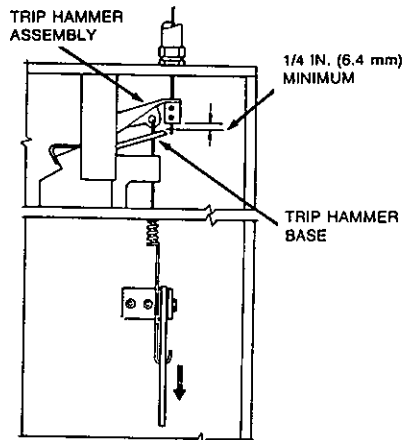

FIGURE 45
16. Lower tension lever to "DOWN" position and inspect the base of the wire rope clamping device to make certain that there is a minimum of 1/4 in. (6.4 mm) clearance between the base of the trip hammer assembly and the cable lever assembly. See Figure 45. (If clearance is not 1/4 in. (6.4 mm) minimum, raise tension lever, loosen set screws on locking clamp and repeat Steps 15 and 16.)